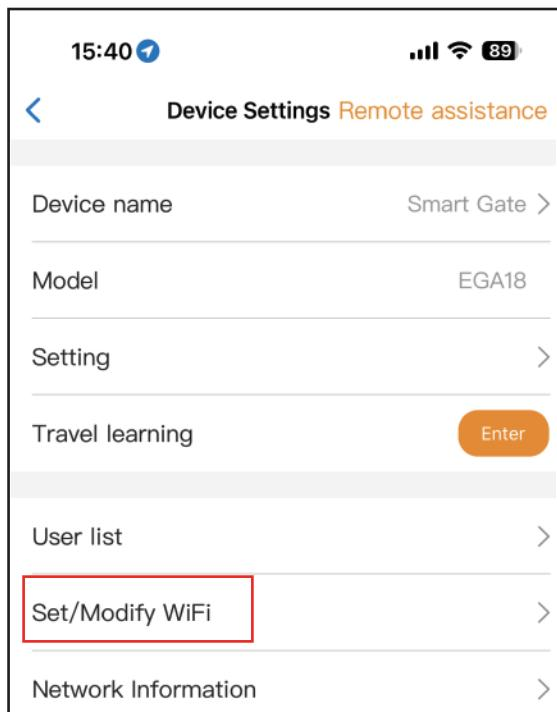

Fig 7
Step 1. Select the device, press the "gear" icon on the top right corner. Click the "Set/Modify WiFi". (Fig 7)